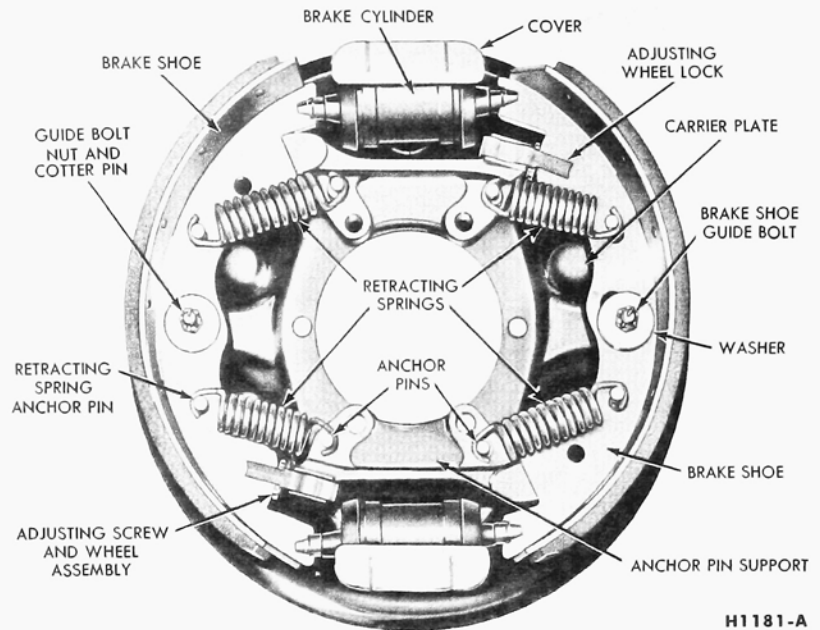

FIG. 10—Two Cylinder Brake
3. Remove the brake shoe guide bolt cotter pin, nut, washer, and bolt from both shoes, and remove the shoes from the carrier plate (Fig. 10).
3. Place the brake shoe over the two brake shoe anchor pins, insert the ends in the brake cylinder links, and install the shoe guide bolt, washer, and nut (Fig. 10). Finger tighten the nut, then back off one full turn, and install the cotter pin.